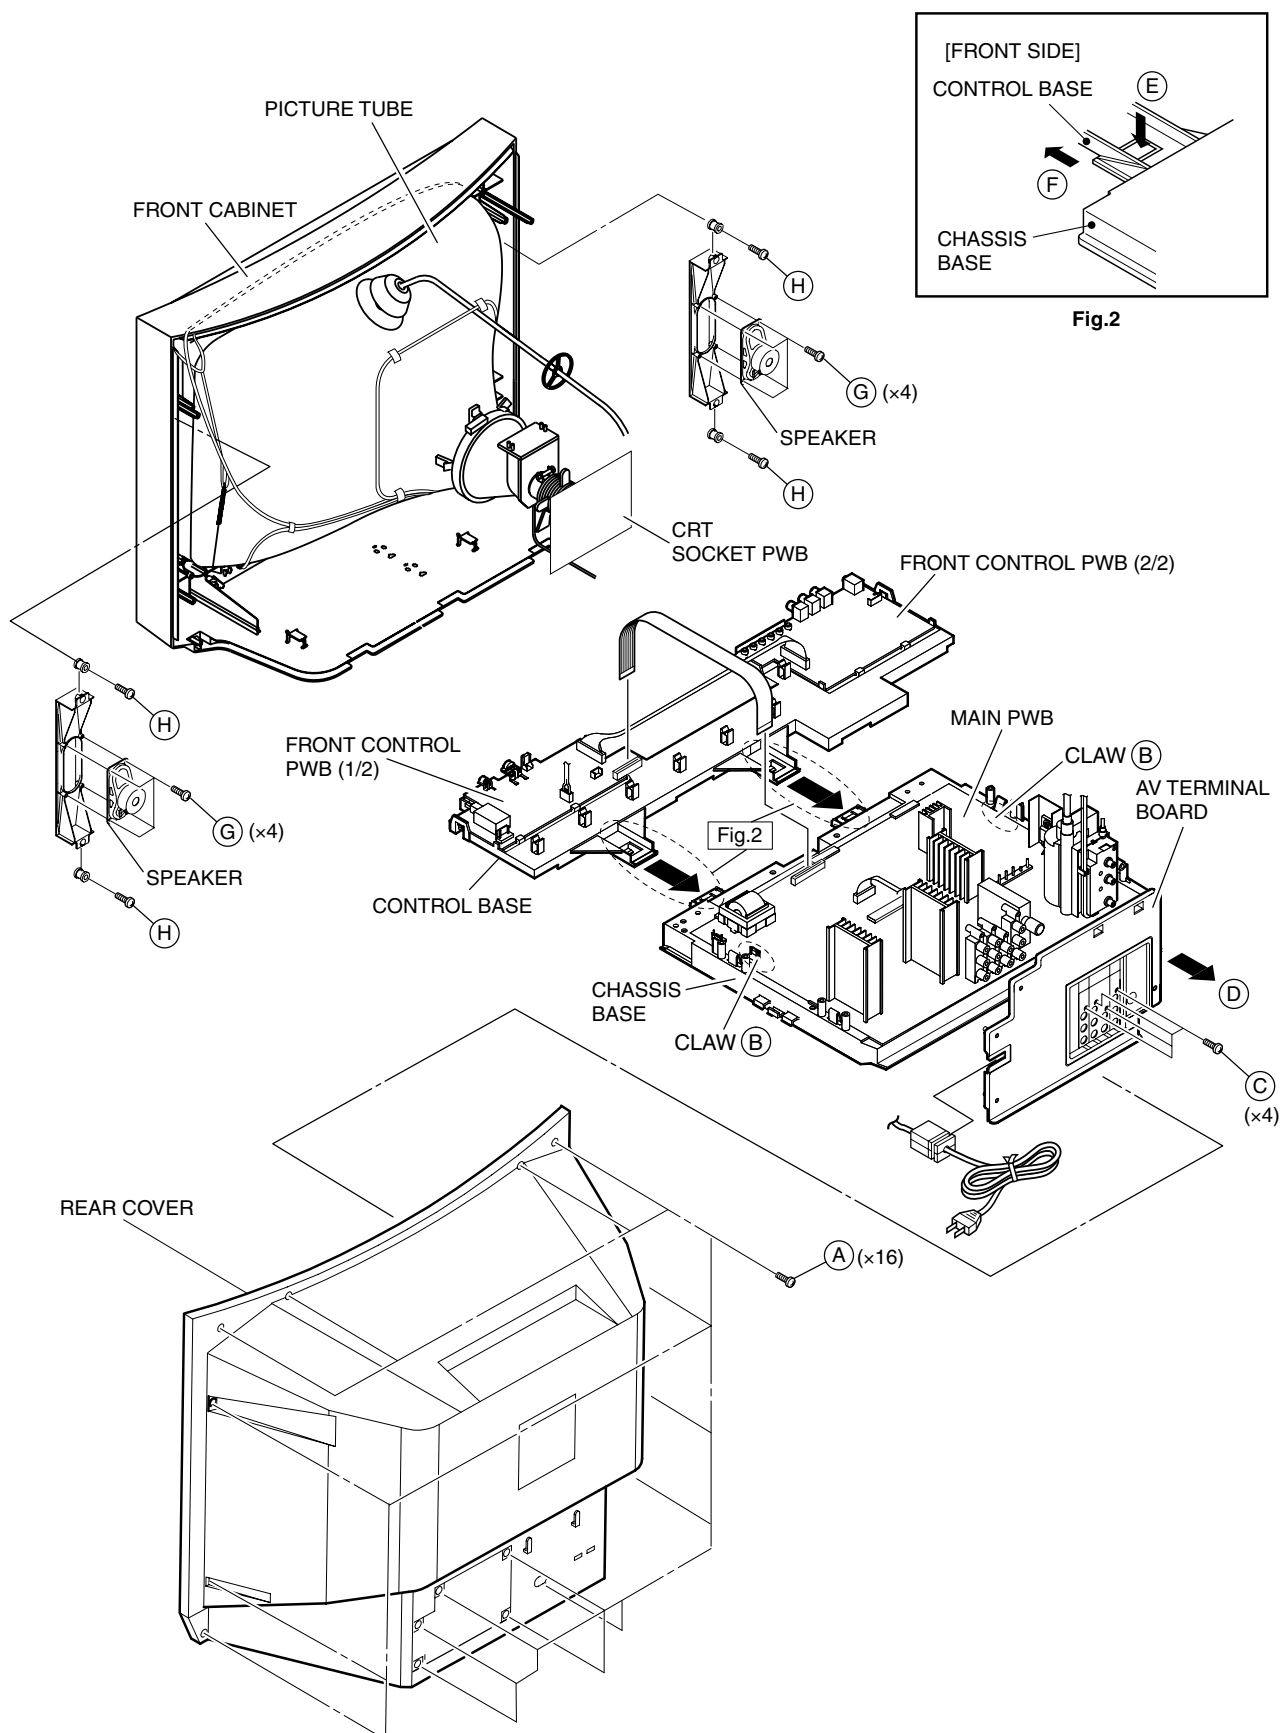

Fig.1
1. Slightly raise the both sides of the chassis by hand and remove the 2 claws marked (B) under the chassis from the front cabinet as shown in Fig.1.
1. Remove the 4 screws marked (C) as shown in Fig.1.
2. When you pull out the AV Terminal board in the direction of arrow marked (D) as shown in Fig.1, it can be removed.
1. Remove the 4 screws marked (G) and 2 screws marked (H) as shown in Fig.1.